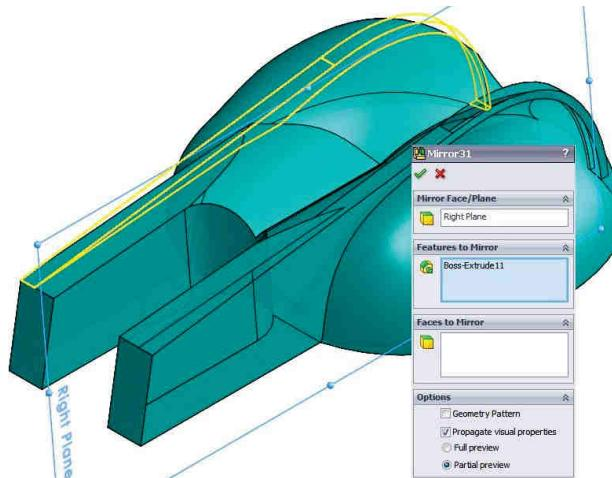

Fig. 3.22
**30 Oglindire nervură:** comanda Mirror  - Fig. 3.22 –  Mirror Face/Plane - Right Plane/  Features to Mirror – nervura anterior creată /
**30 How to mirror the rib:** the Mirror  command - Fig. 3.22 –  Mirror Face/Plane - Right Plane/  Features to Mirror – the previous rib /